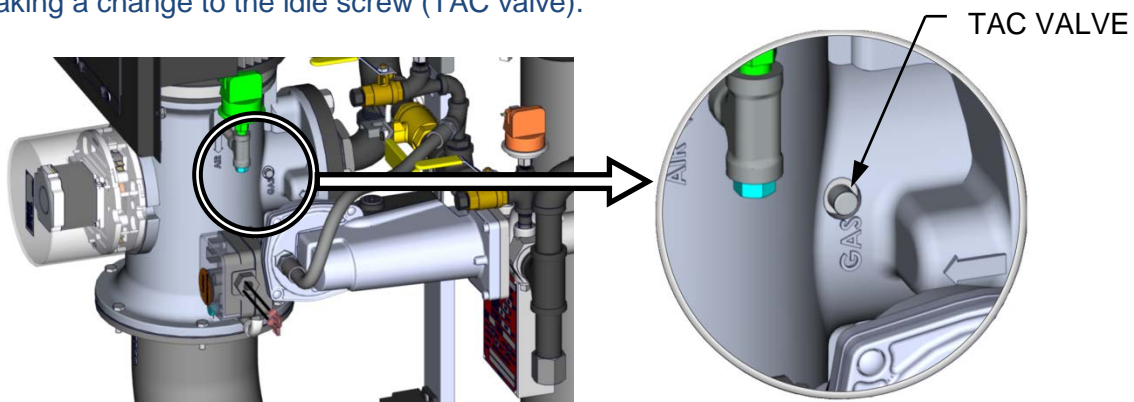

Figure 4-6. TAC Valve (Idle Screw) Adjustment
24. If the oxygen level at the 16% valve position is too high and the Blower voltage is at the minimum value, you can adjust the TAC valve (see Figure 4-6), which is recessed in the top of the Air/Fuel Valve. Rotate the screw **1/2 turn clockwise** to add fuel and **reduce** O₂ to the specified level. Recalibration **MUST** be performed again **from 60% down to 16%** after making a change to the idle screw (TAC valve).
24. If the oxygen level at the 16% valve position is too high and the Blower voltage is at the minimum value, you can adjust the TAC valve (see Figure 4-6, above), which is recessed in the top of the Air/Fuel Valve. Rotate the screw 1/2 turn clockwise (CW) to add fuel and reduce the O₂ to the specified level. Recalibration **MUST** be performed again from **60% down to 18%** after making a change to the idle screw (TAC valve).